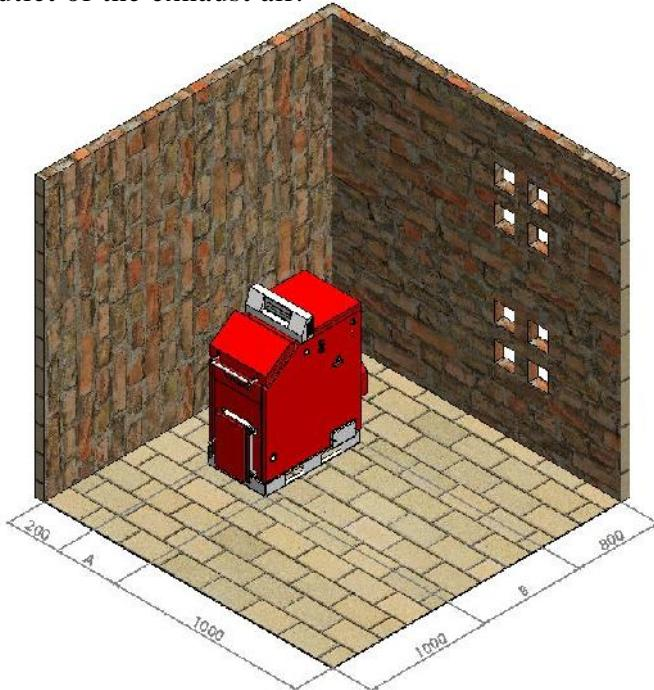

Figure 6. Positioning of boiler in the Boiler room
- Within the automation itself that leads the combustion process and influences the work of two cycles of heating, there are two thermostats. Both are of similar construction as the thermostat shown in Figure 6 and they have safety functions as limiters of the temperature of water in the boiler. Because of the safety role in the functioning of the boiler, both thermostats have the independent probes for measuring of water temperature. The first thermostat is the so-called „working thermostat” work and it serves to limit the temperature to a level the user wants. Another thermostat is the „safety thermostat” because it stops the operation of the fan which favors the flame, and adds a new energy. Safety temperature is limited to 95 degrees Celsius.
The support surface of the boiler in the boiler room must be of non-combustible material. Recommended distance of all four sides of the boiler in relation to the boiler walls or other solid body (water heater, etc..) are shown in **Figure 6**. These values allow a safe distance access when firing, sufficient space for cleaning and easy access to fan and valve for filling and emptying. Boiler at its left hand side should be away from the wall 100 to 200 mm i.e. as much as needed for the connection of valves for thermal safety by over flow. If the valve is not to be installed then the space can be smaller. The flap handle for firing is removable and can be placed either on the left or right side of the boiler. The space on the right side of the boiler, which is recommended to be at least 800mm from the silo is important because after cleaning the boiler the user then goes and pulls out the ashtray from the back of the firebox. Boiler room must have sufficient ventilation holes for fresh air as well as for the outlet of the exhaust air.